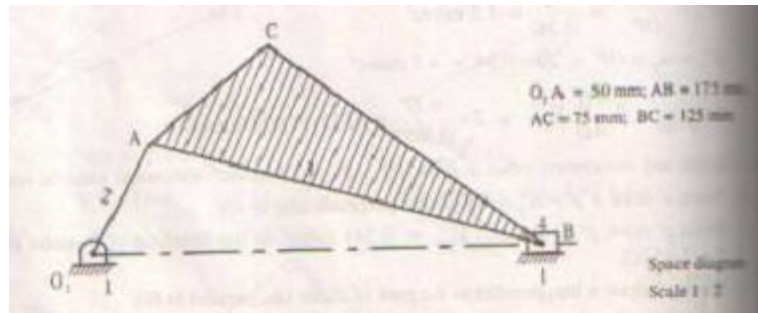

Fig. 2.1
1. In mechanism shown in fig.2.1, crank2 rotates at 3000rpm.Find the acceleration of the point C in magnitude, direction and sense. Find also the angular acceleration of link 3.